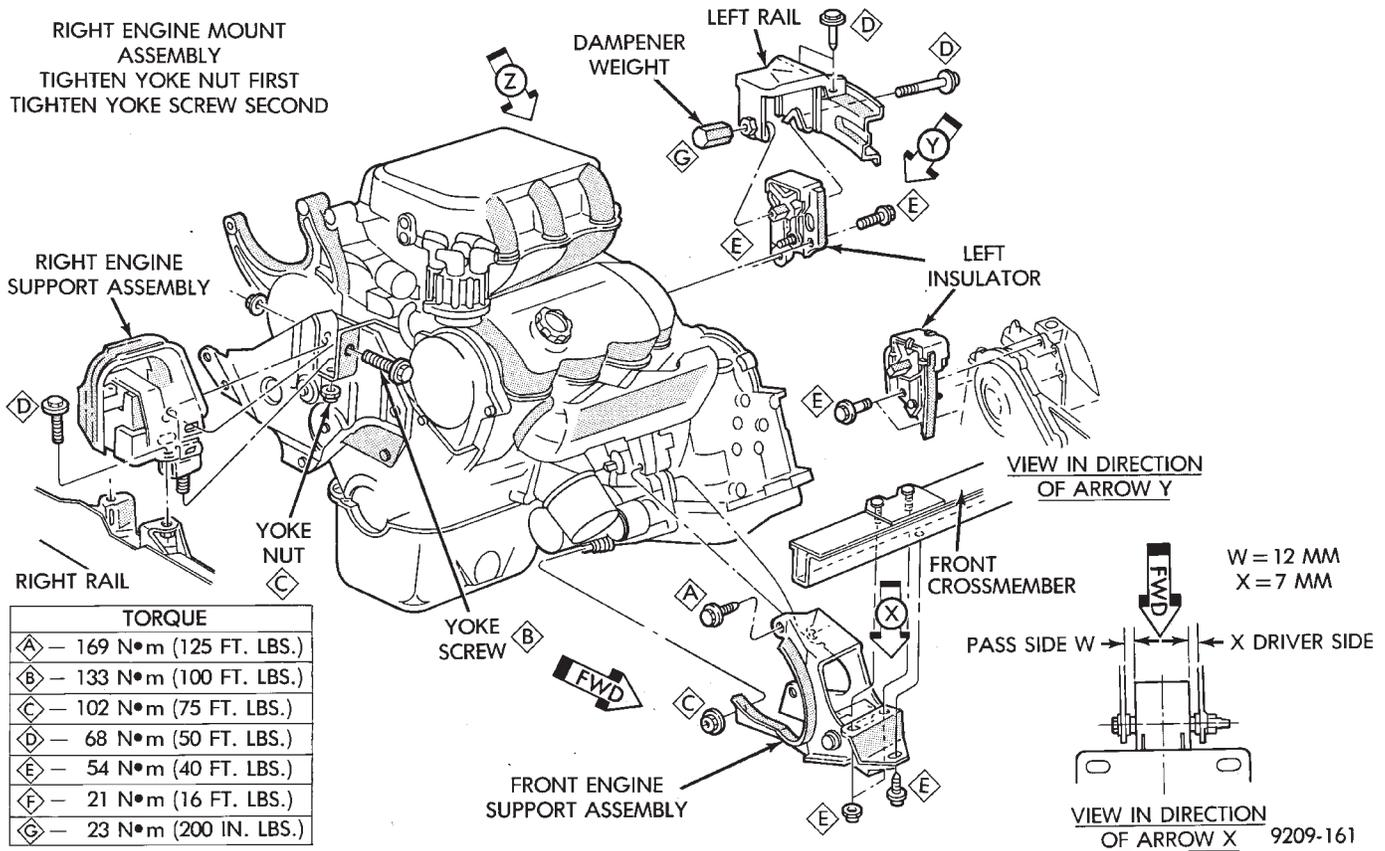

Fig. 2 Engine Mounting
- (1) Remove the right engine mount insulator vertical fasteners from frame rail.
- (2) Remove the load on the engine motor mounts by carefully supporting the engine and transmission assembly with a floor jack.
- (3) Remove the thru bolt from the insulator assembly. Remove insulator.
- (4) Reverse removal procedure for installation. Refer to (Fig. 2) for bolt tightening specifications.
- (5) Engine mount adjustment, Refer to Engine Mount Insulator Adjustment of this section.
- (1) Support the engine and transmission assembly with a floor jack so it will not rotate.
- (2) Remove the thru bolt from the insulator and front crossmember mounting bracket.
- (3) Remove the front engine mount bracket to front crossmember screws and nuts. Remove the insulator assembly.
(5) Engine mount adjustment, Refer to Engine Mount Insulator Adjustment of this section.